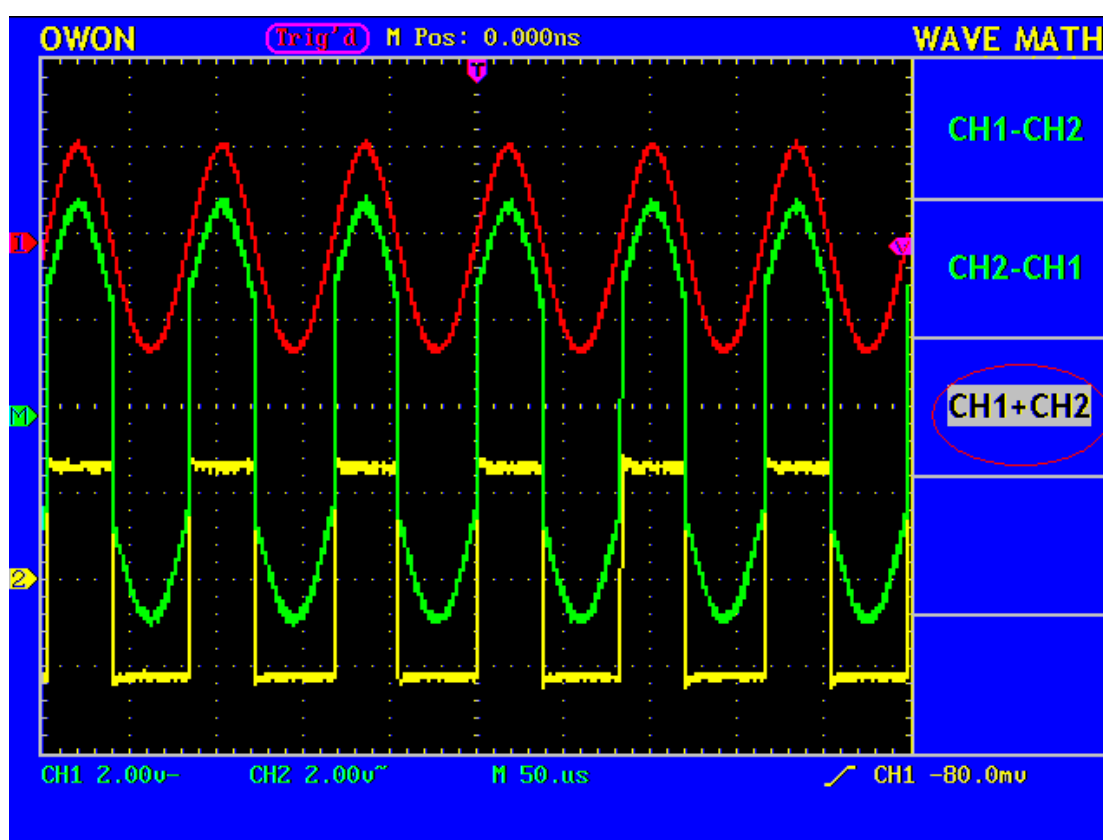

Fig. 20 Wave Form result from CH1 +CH2 Mathematical Manipulation
2. Press the **F3** menu selection button and choose **CH1+CH2**. The green calculated wave form M is displayed in the screen; press the **F3** menu selection button again, the wave form M is closed off (see Fig. 20).